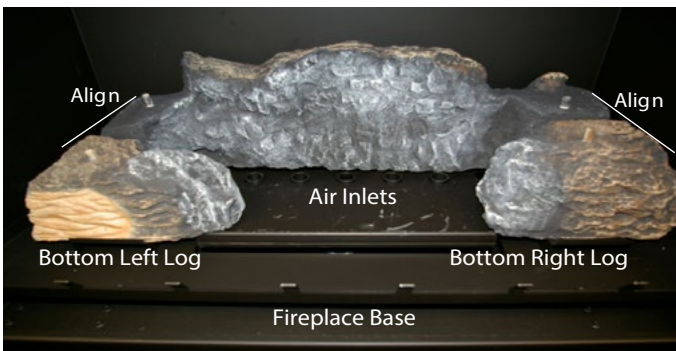

Figure 10b. Placing Bottom Right / Left Logs.
Step 3. Place the bottom Right and Left logs as shown in **figure 10b**.
Arrange the ember chips on top of the burner tray. Care should be taken when placing the embers, as blocked burner ports may cause an incorrect flame pattern, carbon deposits and delayed ignition. Also, the embers must never be placed in a way that obstructs any of the air inlet ports, located at the rear of the burner, as shown in **figure 10b**.